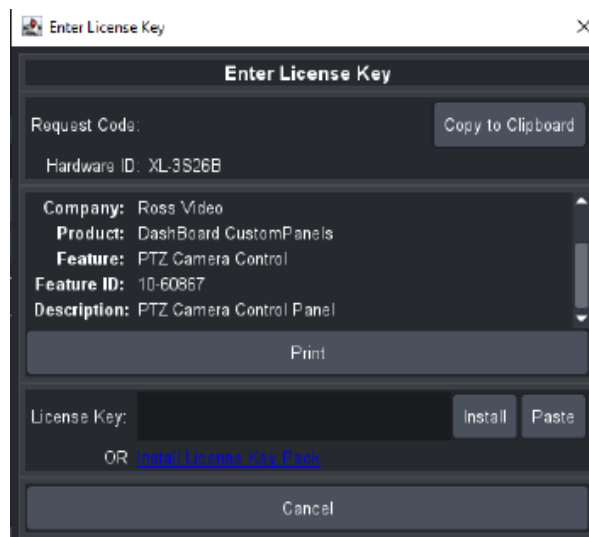

Figure 4 - DashBoard Licensed Features - Enter License Key
- ii. The **Enter License Key** dialog box opens. Refer to Figure 4.